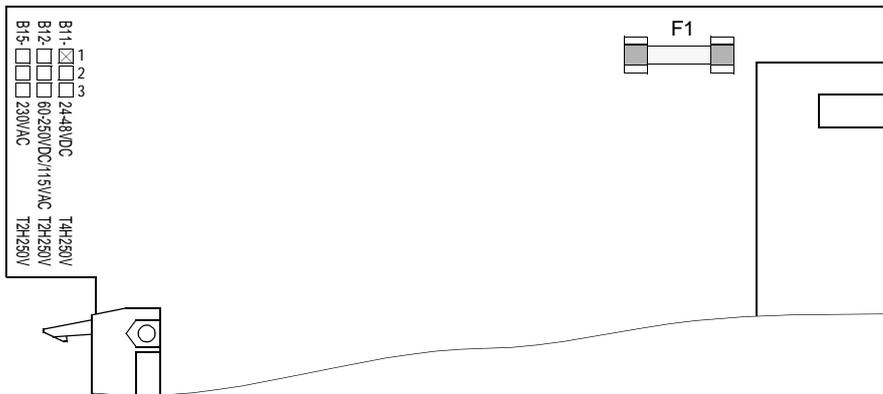

Figure 9-7 Power supply mini-fuse CPU board
- Has the fuse in the power supply not blown? The location of the fuse is shown in Figure 9-7. If the fuse needs to be replaced, see Subsection 9.5.2.
This data is printed on the module (see Figure 9-7). The type of fuse depends on the auxiliary supply voltage, e.g. for 24 to 48 VDC the fuse type “T4H250V” according to IEC 60127-2 is required (refer to Table 9-1). To maintain the UL-approval, only UL approved fuses may be used (e.g. Messrs. Wickmann. type 181).
- Remove the defective fuse. Figure 9-7 illustrates the fuse.